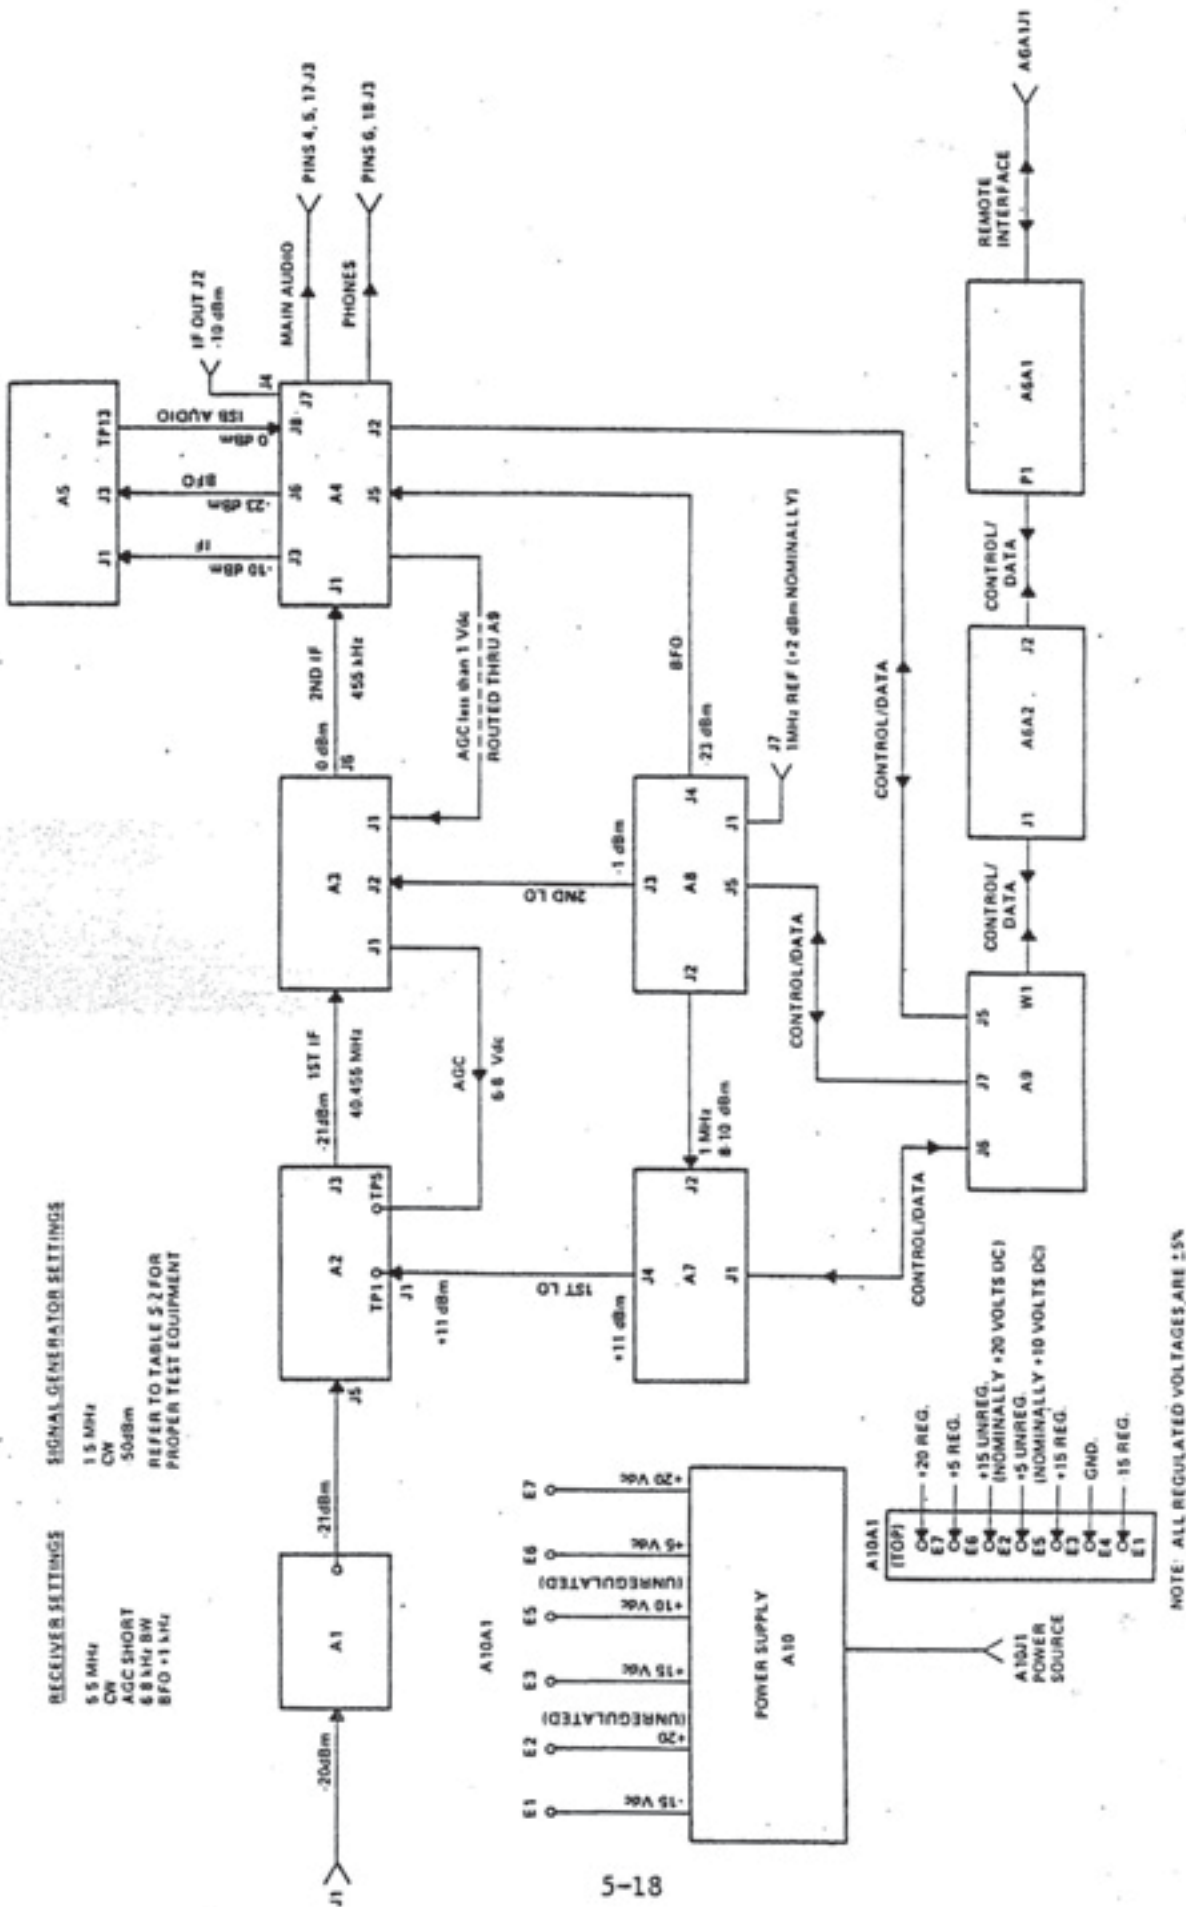

Figure 5-2. Typical Signal Levels, KA6790/GM IIF Receiver
Figure 5-2 shows signal flow between individual circuit cards, and the jacks and/or test points for measuring signal values. This information, along with the BITE check detailed in Paragraph 5.4.2 and the Performance Tests detailed in Paragraph 5.5 should be used in isolating malfunctions to the board level. Receiver settings, signal generator settings, and connector pin location diagrams are shown as part of Figure 5-2. The following procedures should be used to perform signal level tests:
1. Set signal generator outputs as specified in Figure 5-2.
2. Set receiver front panel controls as specified in Figure 5-2.